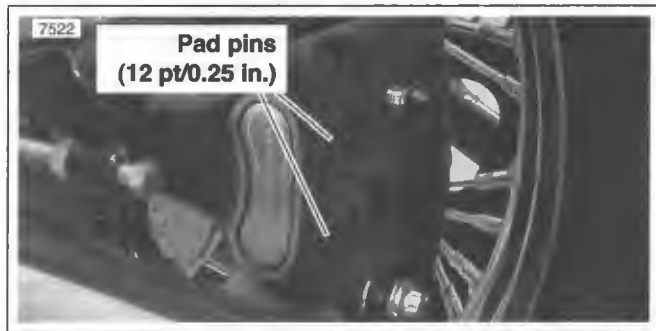

Figure 1-17. Pad Retaining Bolts (Rear Caliper Shown)
3. See Figure 1-17. Loosen, but do not remove, both pad pins (12 pt/0.25 in.).